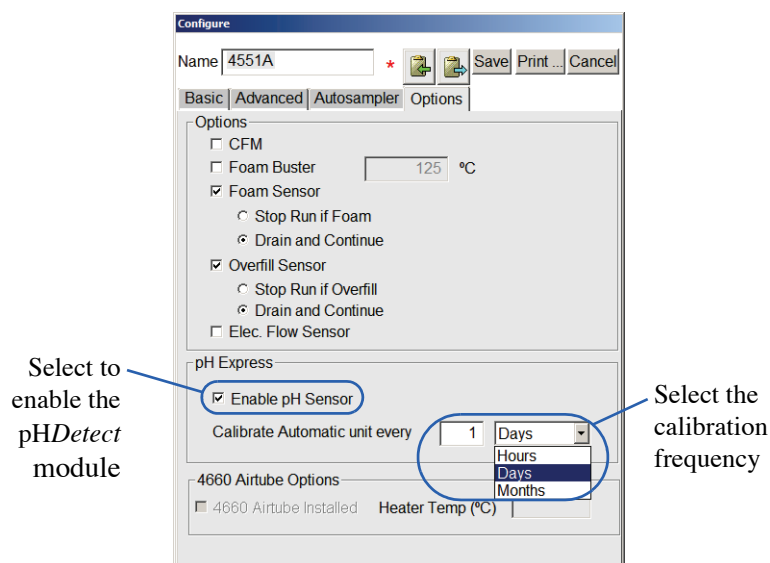

Figure 7.4. Enabling the pHDetect module
4. From the Configure screen, press the **Options** tab to access the Options Configure screen (see Figure 7.4).
To automatically calibrate during the PURGE state, set the appropriate calibration frequency of “Calibrate Automatic unit every” in the Configure dialog box (see Figure 7.4).